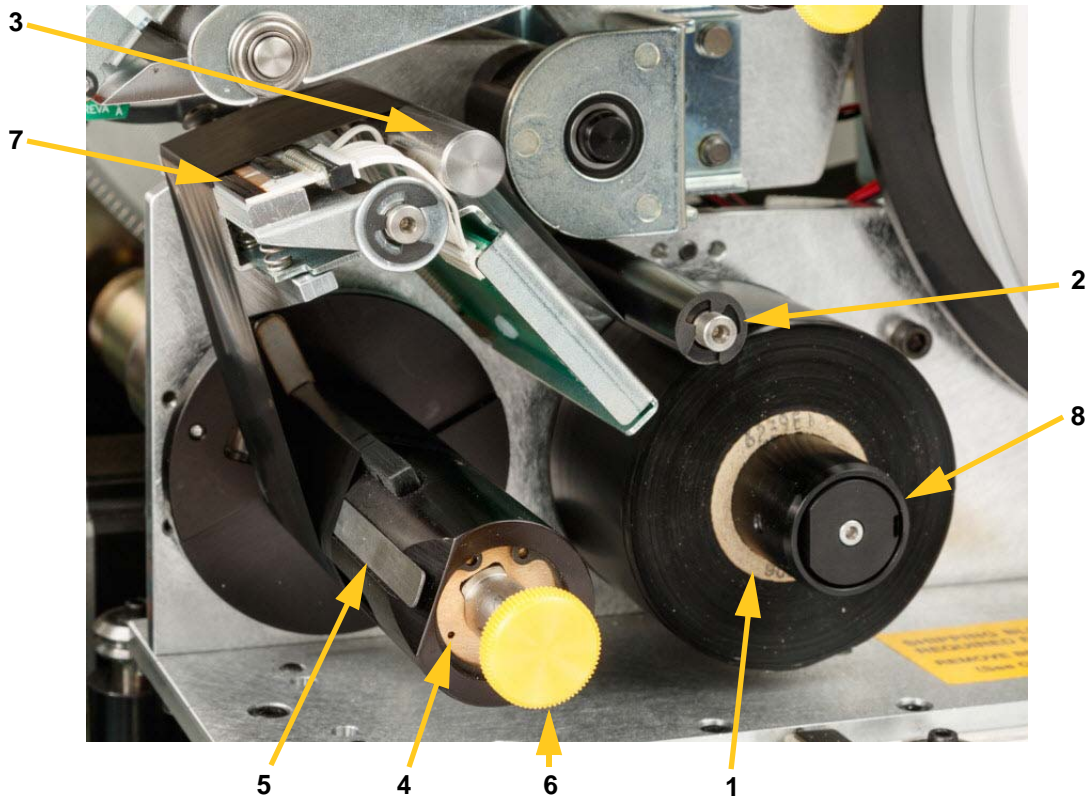

Figure 4-11. Ribbon Path Parts
If ribbon is currently loaded, remove it (refer to Figure 4-11 on page 21):
- Thread the ribbon under the guide roller and over the guide bar and printhead. See Figure 4-11 on page 21.
- Feed ribbon under the clip (A) as shown until approximately 1" of ribbon is past the clip.
- Turn the take-up spool knob (B) counter-clockwise until the ribbon is wrapped around the take-up spool several times to ensure that it won't unravel.
**Note:** Make sure that the ribbon roll is installed flush to the back flange and routed as shown in Figure 4-11 on page 21.